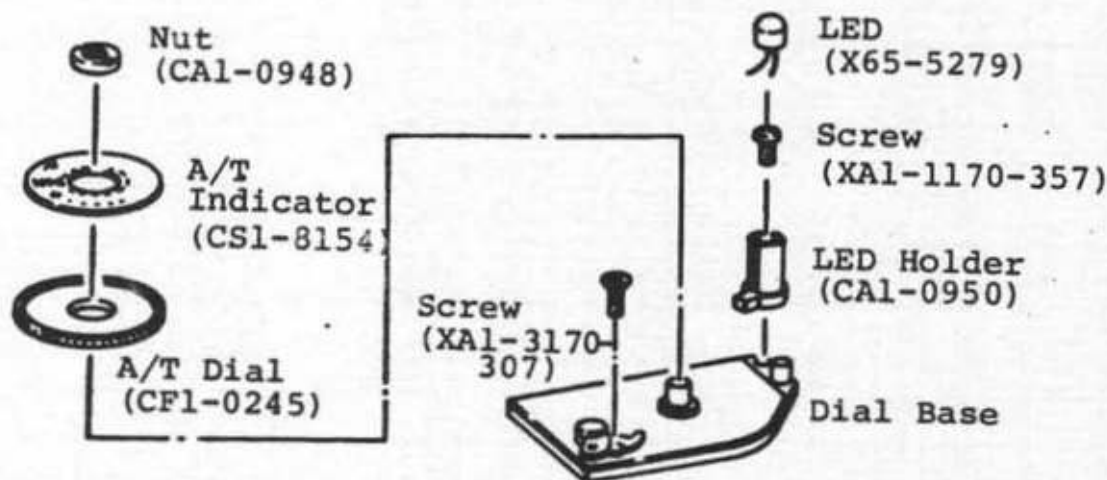

Fig. 2-22
1. Assemble the parts as shown in figures 2-22 thru 2-24.